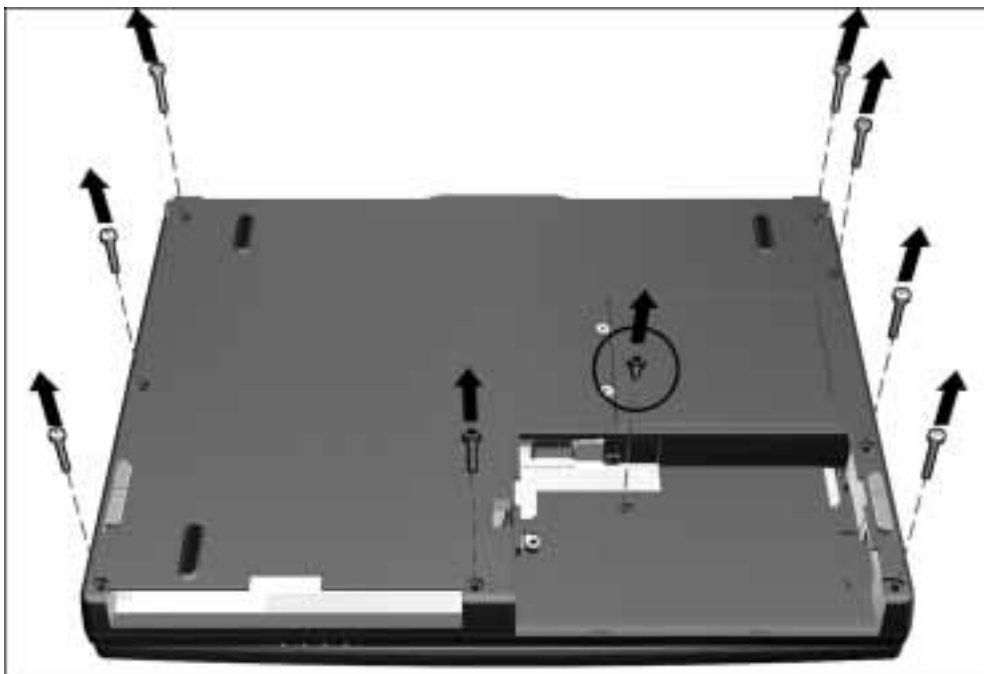

Figure 5-19. *Removing the Keyboard/CPU Cover Assembly Screws*
3. Remove the nine screws from the bottom of the computer (Figure 5-19).
CAUTION: The screw removed from the MultiBay area of the computer (circled in Figure 5-19) is shorter than the other screws removed in Step 3. When installing the keyboard/CPU cover assembly, be sure this shorter screw is installed in the proper location. Failure to follow this caution can result in damage to the computer.